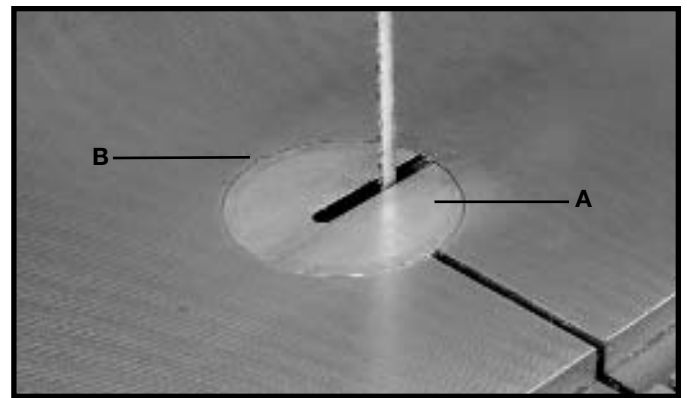
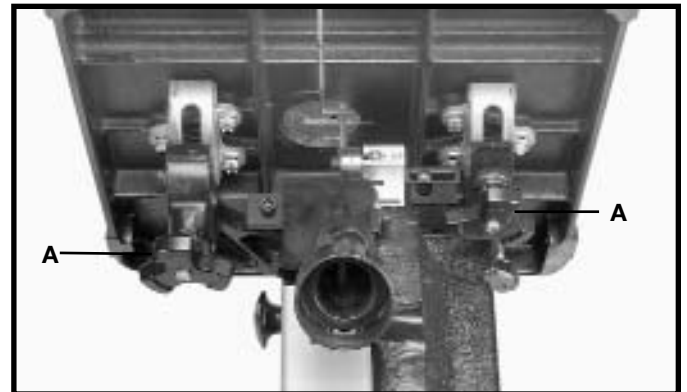

Fig. 19
Fig. 20
Place the table insert (A) Fig. 19 in the hole provided in the table. Engage the protrusion on the insert in the indents (B) in the table.
1. The table on the band saw can be tilted 45 degrees to the right and 10 degrees to the left. To tilt the table to the right, loosen the two locking knobs (A) Fig. 20, tilt the table to the desired angle as shown on Scale (D), and tighten two locking knobs (A).
2. To tilt the table to the left, loosen the two locking knobs (A) Fig. 20, and tilt the table to the right until access to the table stop (A) Fig. 21 is gained. Remove the table stop (A) Fig. 19, and tilt the table to the left 10 degrees. Tighten the two locking knobs (A) Fig. 20.